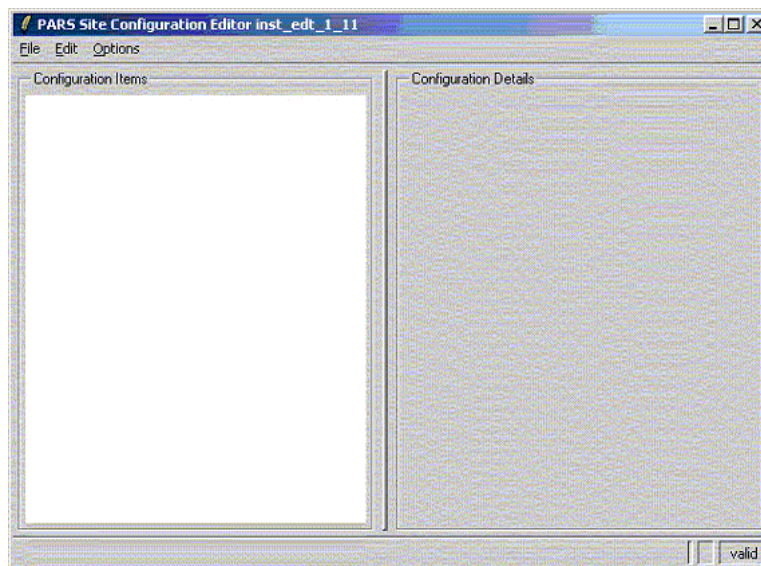

Figure 1-258. Deploy Editor
26. The “Deploy Editor” window opens (Figure 1-258). Select the system in the “Configuration Items” frame to change the “Configuration Details” on the right side.